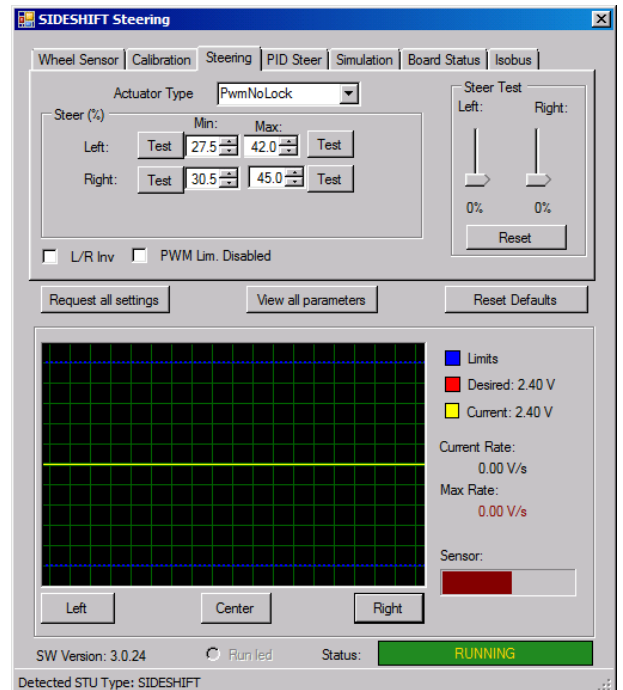

Figure 20 CANTool tab Steering
2. Go to tab "Steering" (Figure 20). Check if steer left makes the cylinder steer left, if not mark the "L/R Inv" check box.